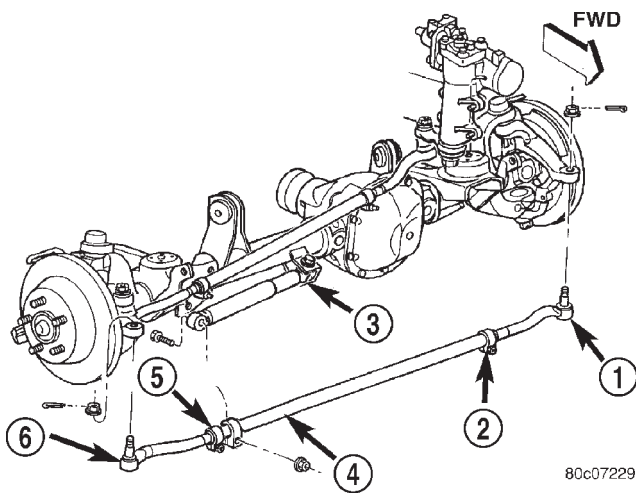

Fig. 2 Tie Rod Assembly
- (1) Raise and support the vehicle.
- (2) Remove wheel and tire assemblies.
- (3) Remove the damper nut from the tie rod clamp (Fig. 2).
- (4) Remove the damper from the tie rod.
- (5) Remove the cotter pins and nuts from the tie rod ends at the steering knuckles (Fig. 2).
- (6) Remove the tie rod ends from the steering knuckles with Puller C-3894-A..
- (7) Loosen the adjustment sleeve clamp bolts and unscrew the tie rod ends from the sleeve.